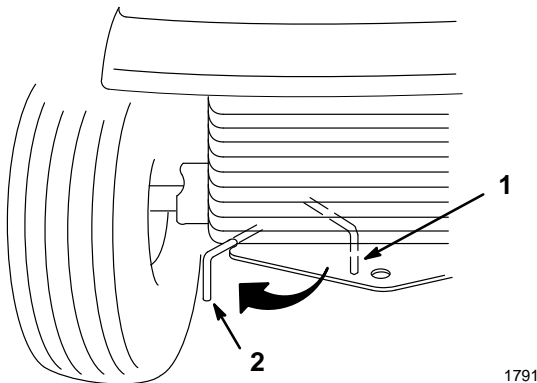

Figure 7
2. Place the drive control, under rear frame, to the “Push” position (Fig. 7).
3. Run engine at a low idle and move traction control pedal forward for five (5) seconds then reverse for five (5) seconds. Repeat three (3) times.
4. Place the drive control in the “Operate” position (Fig. 7). Drive the tractor forward then reverse approximately five (5) feet. Repeat three (3) times.